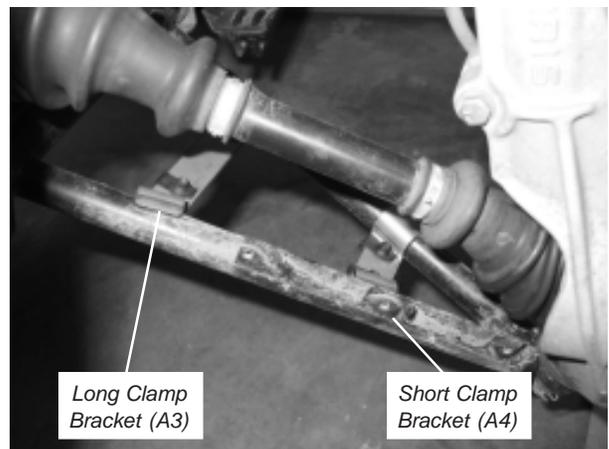

Figure 3
3. Place clamp brackets on top side of a-arm. See Figure 3.